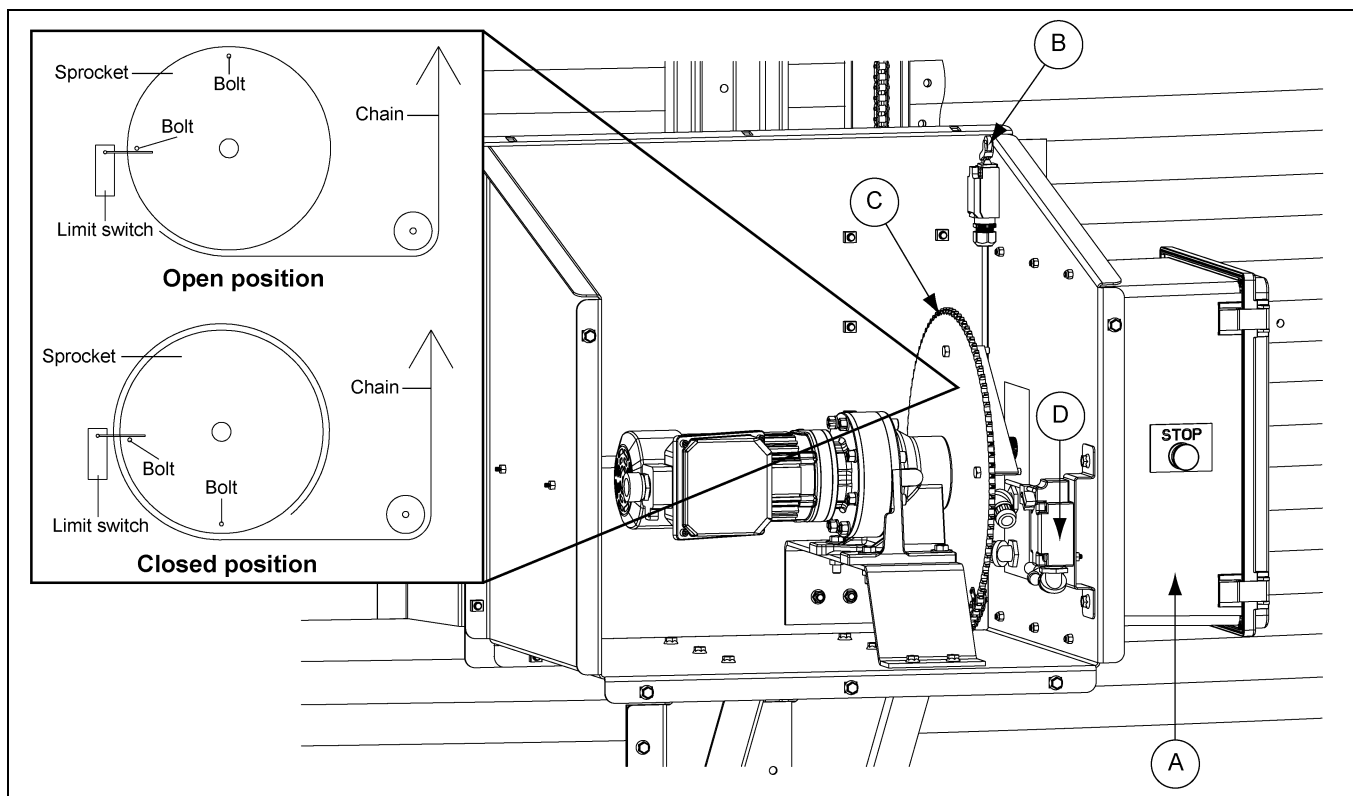

Figure 4H
1. Field drill two (2) holes in bottom of chute position controller electrical box (A) large enough to accommodate cables for power and Autoflow controls. Refer to wiring diagrams on Pages 23 and 24 to feed conduit for wiring to the main power breaker and Autoflow controls. (See Figure 4H.)
- b. Ensure the sprocket (C) is in the open position when beginning testing. Use the manual dump chute switch located on the main control panel to move between the open and closed positions. Set the sprocket travel to the closed position on the Autoflow control and observe the bolts in the sprocket (C) travel from the open (clockwise) position to the closed (counterclockwise) position to the limit switch (D) as shown in Figure 4H.